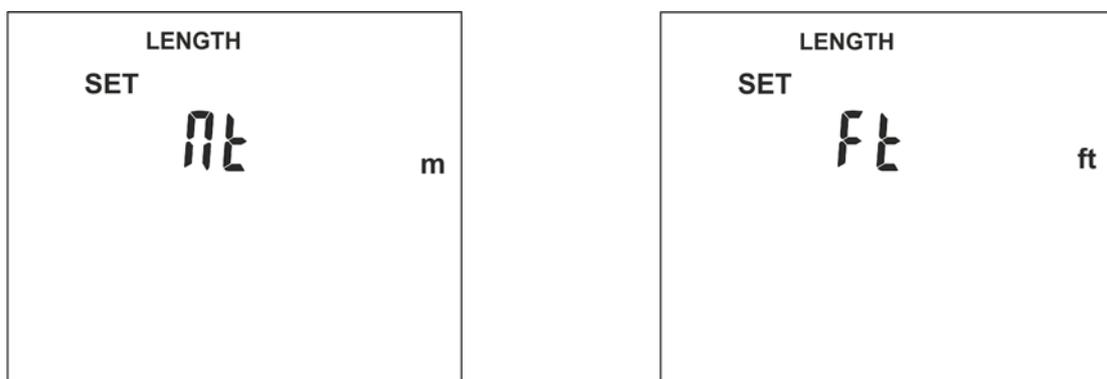

Fig. 6: Setting length measuring unit
1. Press and hold the **L/W** key and switch on the instrument by pressing the ① key. The instrument shows the screen in Fig. 6 – left side.